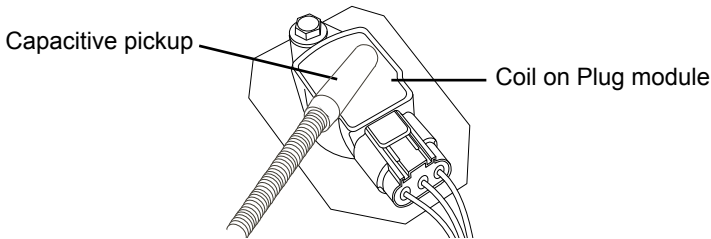

Fig. 4 - Capacitive pickup on coil on plug module
- 6- Place the capacitive pick-up on the top and center of the ignition module (as shown in Fig 4 below), searching for the position that produces a stable RPM or spark burn time reading.